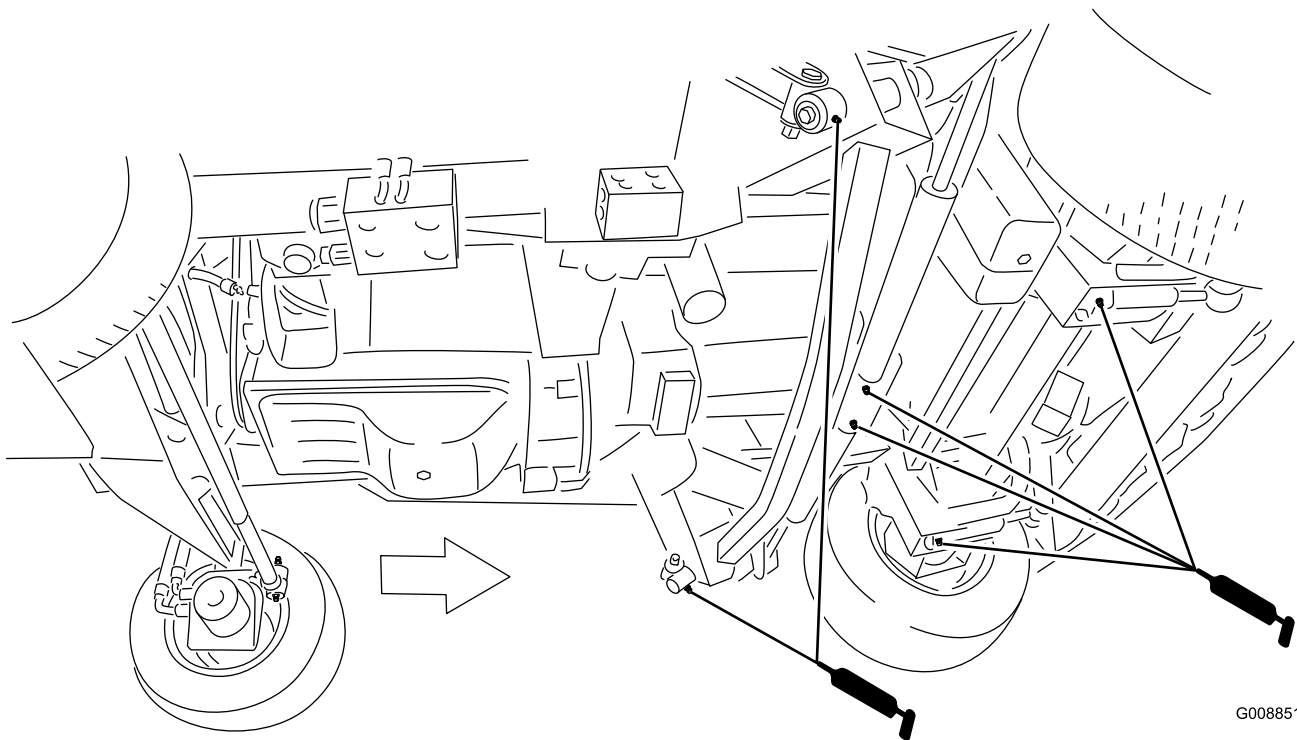

Figure 50
- Impact arms (2) (Figure 50)
- Front Deck Lift cylinder pivots (2) (Figure 50)
- Side Deck Lift cylinder pivots (2) (Figure 50)